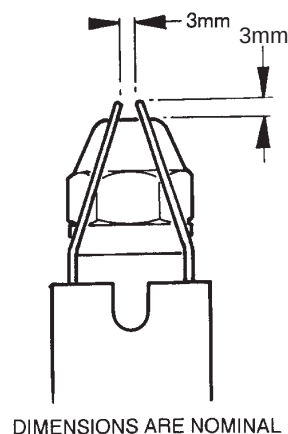

FIG. 18
SEE FIG. 18
5. Ensure electrode gaps are correct. (See Fig. 18)